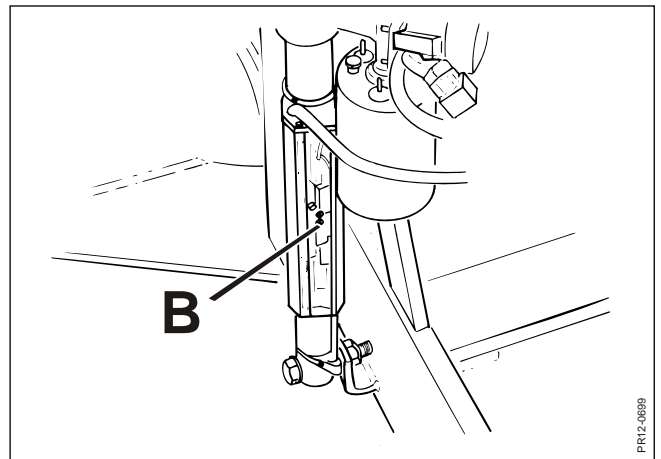

Fig. 4-21
**Fig. 4-21** Adjustment is made by moving the 2 contact elements **B** which **MUST** be placed against each other. When the elements are moved upwards, the distance between rubber disc and friction disc is reduced, and if the elements are moved downwards, the distance is increased.